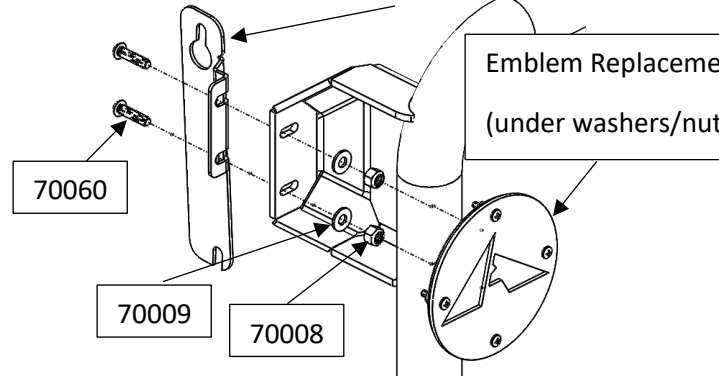

Figure 4: Emblem Replacement and Door Seam Bracket Installation
h. Slide the bracket down while aligning the two (2) holes at the location of the emblem (inserting hardware can be useful).
- c. Use 1/4"-20 x 3/4" bolts for the center bracket, bolting through the door seam bracket, the door seam, the emblem replacement bracket, and box rack (See Figure 4).